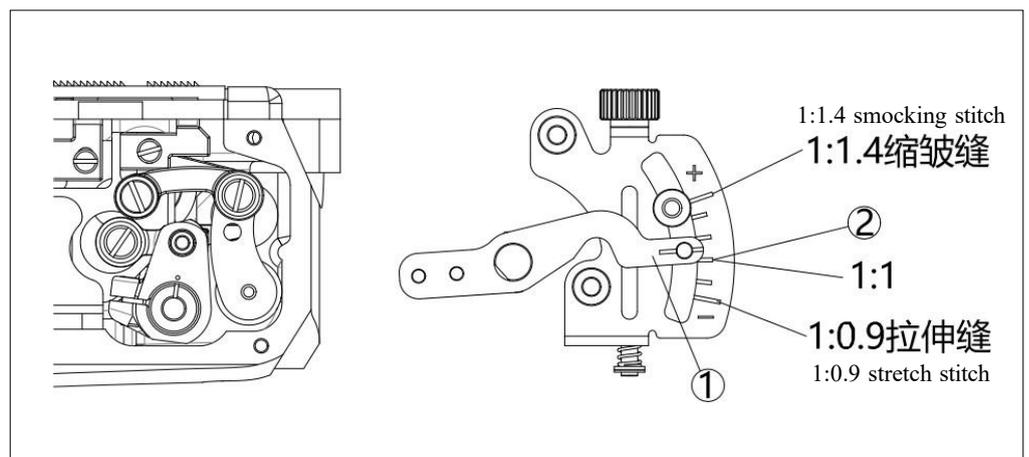

Figure 7-38
When aligning the differential adjustment lever① with the scale line② on the differential feed dial, the action of the differential feed teeth and the main feed teeth will synchronize (differential ratio 1:1), ensuring the sewing action is synchronized. (Figure 7-38)